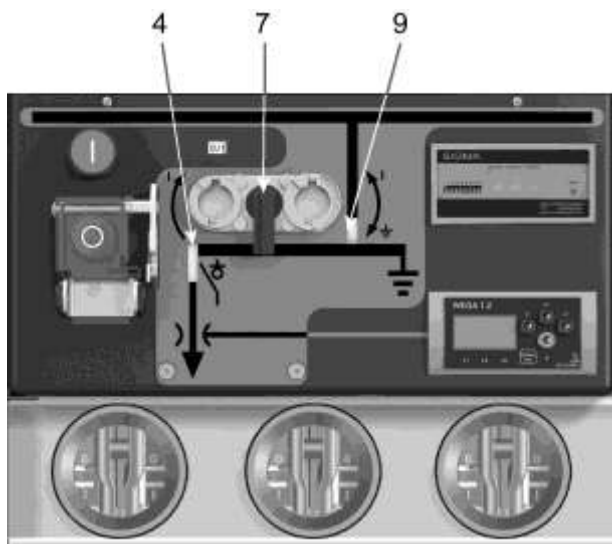

Figure 4-5: Panel in neutral position
In the neutral position (see Figure 4-5):
1. Check the position indication to verify that the change-over switch is in the earthed position. An additional option is available to inspect the position of the change-over switch through windows (14) at the front, see Figure 4-5. Check the position of all three phases: use a torch to provide additional light through an adjacent window; check the position of the change-over switch; Figure 4-7 shows the change-over switch in the earthed position; Figure 4-8 shows the busbar position; repeat this procedure for the other two phases.
3. Turn the selector anti-clockwise, the control point of the switch (5) is revealed.